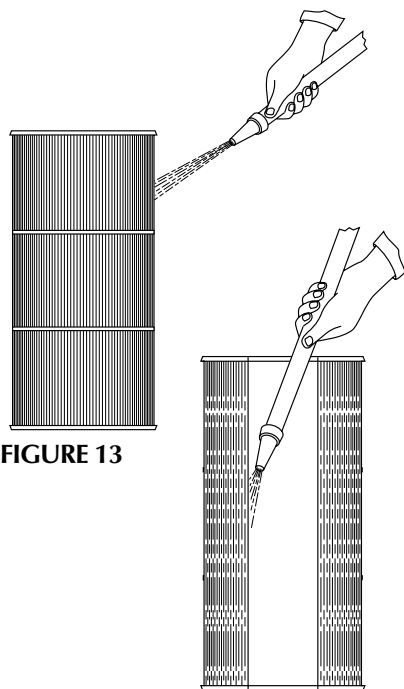

FIGURE 14
4. Repeat wash down process for inside of filter element. Hold nozzle as close to inside of pleats as possible (Figure 14).